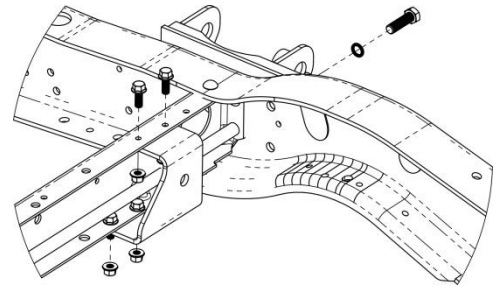

Figure 16. Track rod mount attachment. Some components not shown for clarity.
3. Loosely install the Cross-member Reinforcement Tube as shown in Figure 16 using the (1) 1/2-13 x 1.75 Hex Flange Bolt and the (1) Wedge Lock Washers.
4. Torque the rear two (2) 1/2-13 fasteners to **85-105 ft-lbs.**
9. Locate the Track Rod Mount and loosely attach to the aft of axle cross-member using the (4) 3/8-16 x 1.00 Hex Flange Bolts, two of which are already inserted in the cross-member and (4) 3/8-16 Locking Flange Nuts. See Figure 16.